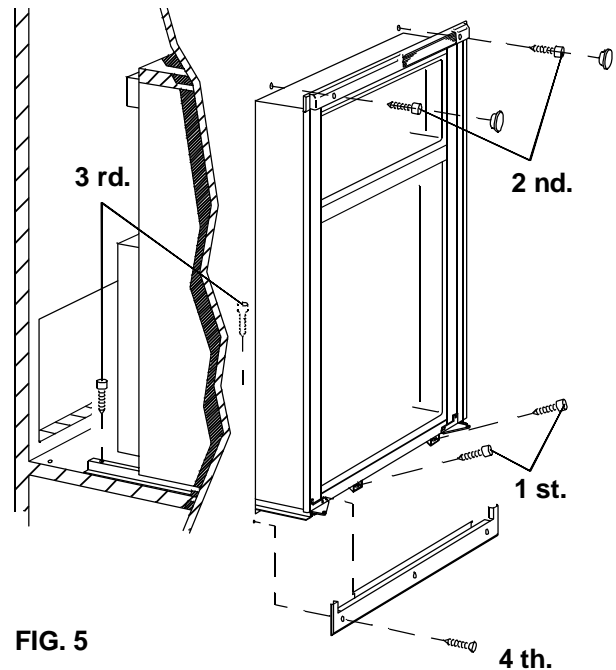

FIG. 5
STEP 4: The refrigerator is provided with a lower front strip (shipped as a loose part). The front strip is to be attached after the refrigerator is set into the cutout opening, and secured with 3 screws. (See FIG. 5).